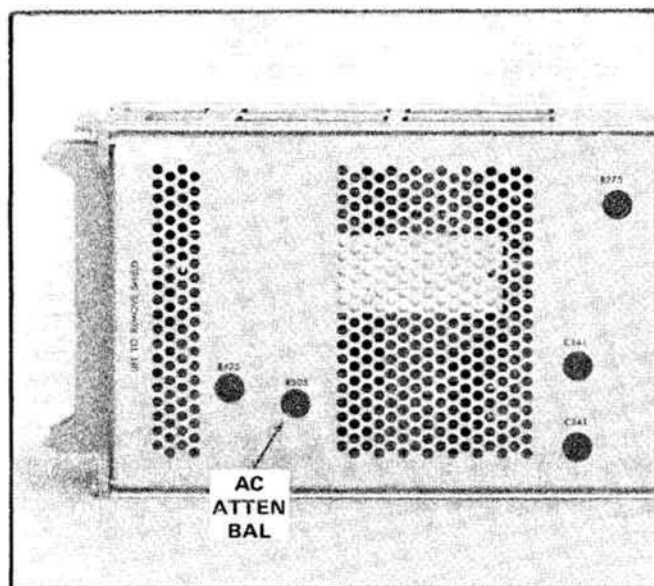

Fig. 2-2. Location of AC ATTEN BAL control.
1. AC ATTEN BAL (internal adjustment). When the LOW FREQ —3 dB POINT switch is used to limit the low frequency response of the Type 7A22, the unit employs AC stabilization. This means that when the switch is set to any position except DC or DC OFFSET, the STEP ATTEN DC BAL and DC OFFSET controls become inoperative. VOLTS/DIV balance is then controlled with the AC ATTEN BAL, an internal adjustment (see Fig. 2-2).
d. Adjust R425 for no movement of trace as the VARIABLE control is rotated from stop to stop. (See Fig. 2-2 for location of adjustment.)